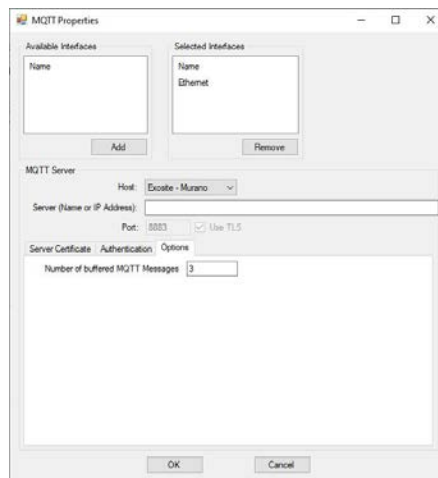

Figure 28-7C
- d. Options Tab. Refer to Figure 28-7C.